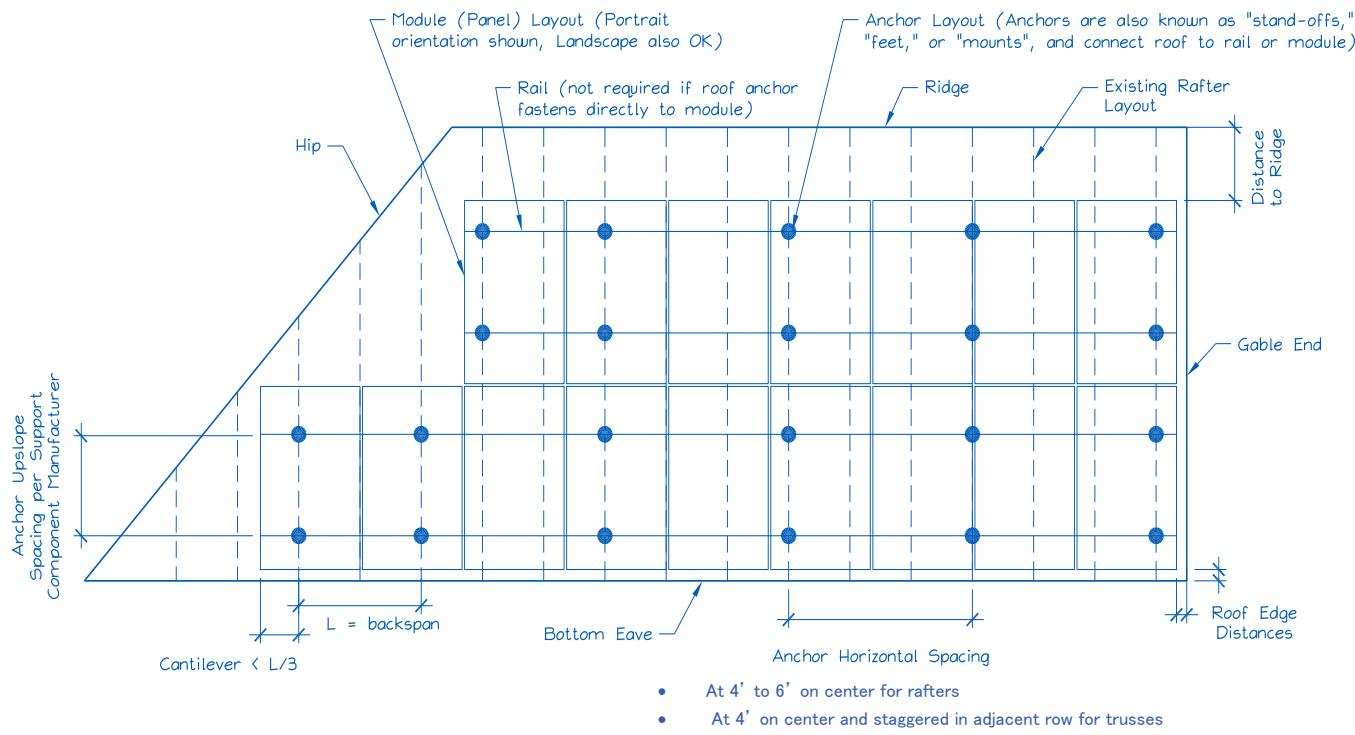

Figure 2. Sample Solar Panel Array and Anchor Layout Diagram (Roof Plan).
E. Is a roof plan of the module and anchor layout attached? (see Figure 2) Y N
(Anchor Layout & Fastener Checks, see figure 2 & 3)
A. Is proposed anchor horizontal spacing less than or equal spaces per figure 2? Y N